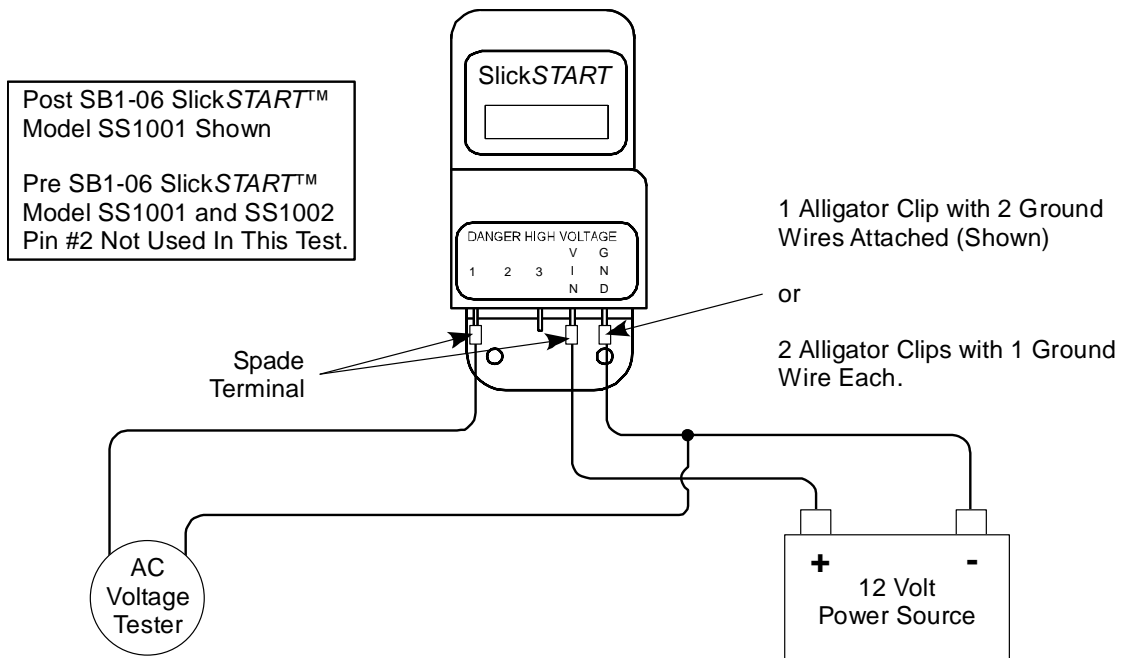

Figure 3
3. Momentarily attach a 12 volt power source to the SlickSTART™ as shown in Figure 3.